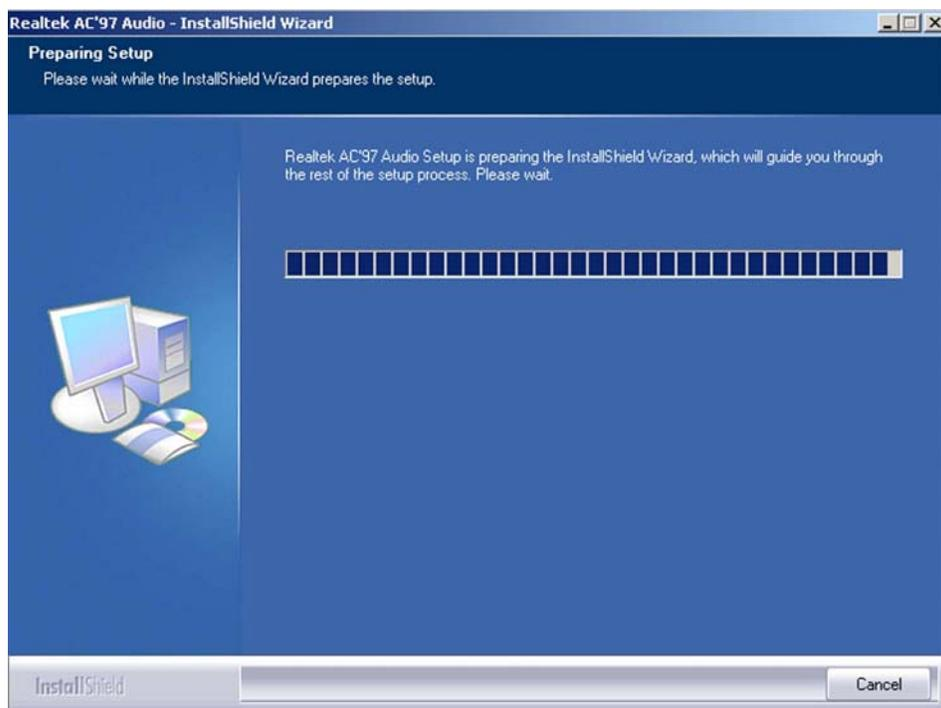

Figure 6-10: Audio Driver Setup Preparation
Step 3: The RealTek Audio Setup prepares the install shield to guide you through the rest of the setup process. See **Figure 6-10**.